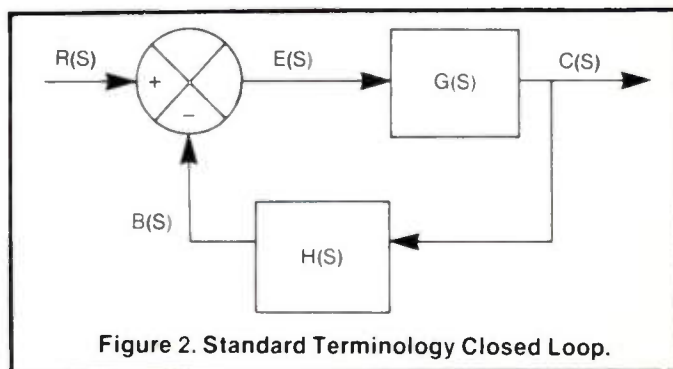
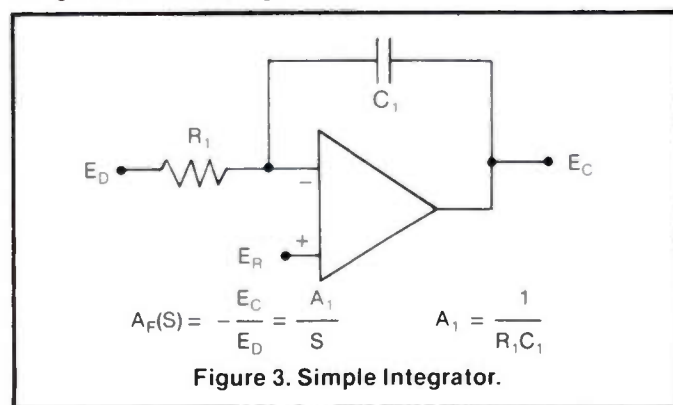

Figure 2. Standard Terminology Closed Loop.
Figure 3. Simple Integrator.
To demonstrate the use of this program, the responses of the four cases shown in Figure 2 were calculated. The results were plotted in Figure 3. The expected results were obtained: the larger the difference between the impedances, the poorer the frequency response; and, the nonsynchronous transformer has a poorer frequency response, especially at the higher frequencies, as compared to the quarterwave. □
Equation (9) can be written using the standard closed loop transfer function notation⁵ shown in Figure 2,
The most common type of loop filter is the simple integrator shown in Figure 3.